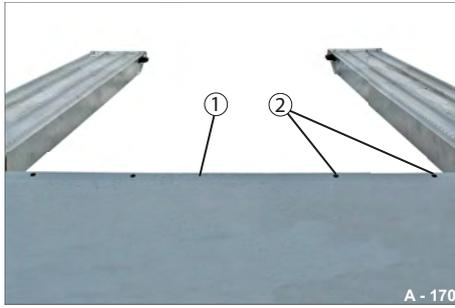
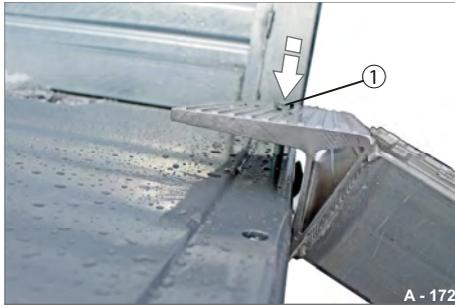

Fig. 181 Chassis loading platform edge
Fig. 182 Setting up ramp planks
There are 6 holes (Fig. 181/2) along the loading platform edge (Fig. 181/1) used to secure the ramp planks from slipping.
- ▶ Position the ramp planks so the retaining pin (Fig. 182/1) slides into the respective hole (Fig. 181/2).